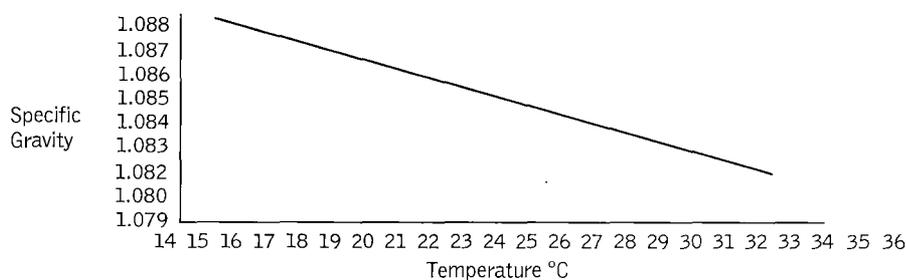

Fig 4-10. Specific gravity/temperature graph
- Specific gravity will vary with developer temperature (see Fig 4-10).